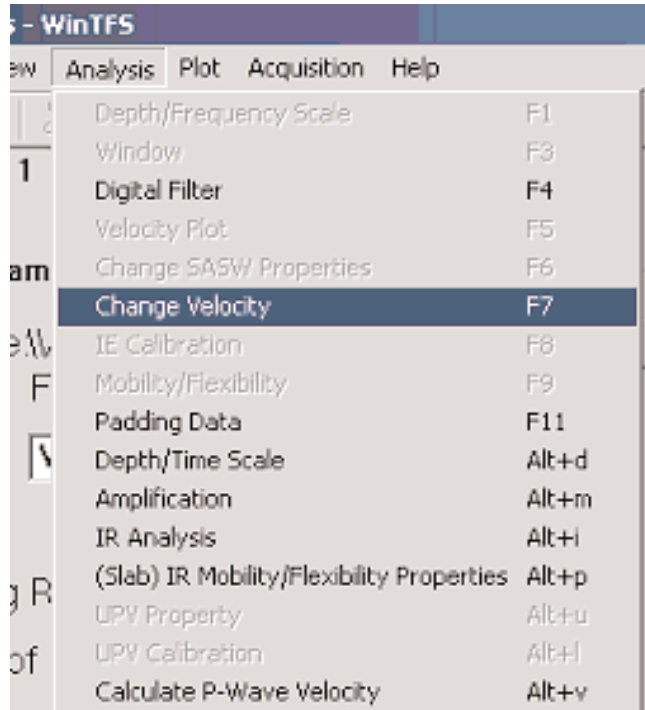

Figure 3: Change Velocity for Calculation
5. The next important aspect in SE/IR analysis is the velocity setting. To access the velocity being used to calculate the length of the shaft, simply click on ANALYSIS/CHANGE VELOCITY, see Figure 3.